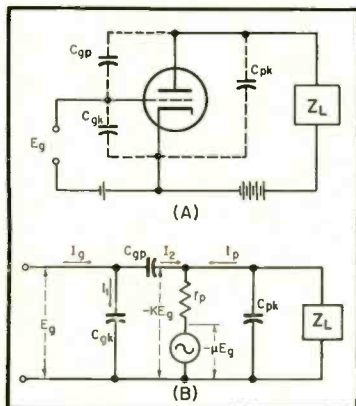

Fig. 1 (A). Typical tube circuit with inter-electrode capacitances indicated. (B). A.c. equivalent circuit at high frequencies.
Figure 1(A) shows the circuit of a triode with the interelectrode capacitances contributed by the tube geometry indicated by dotted lines. The equivalent circuit for this tube is shown in Fig. 1(B). If an alternating current signal  $E_g$  is applied at the input terminals, alternating currents will flow through the capacitors  $C_{gp}$  and  $C_{gk}$ . These currents together will be  $I_g$ . The amount of current  $I_g$  that flows through these capacitors is determined by the voltage and frequency of the alternating current input in addition to the gain and plate resistance of the tube and its load impedance. Examining the circuit, we see that the output voltage of the tube is effective-